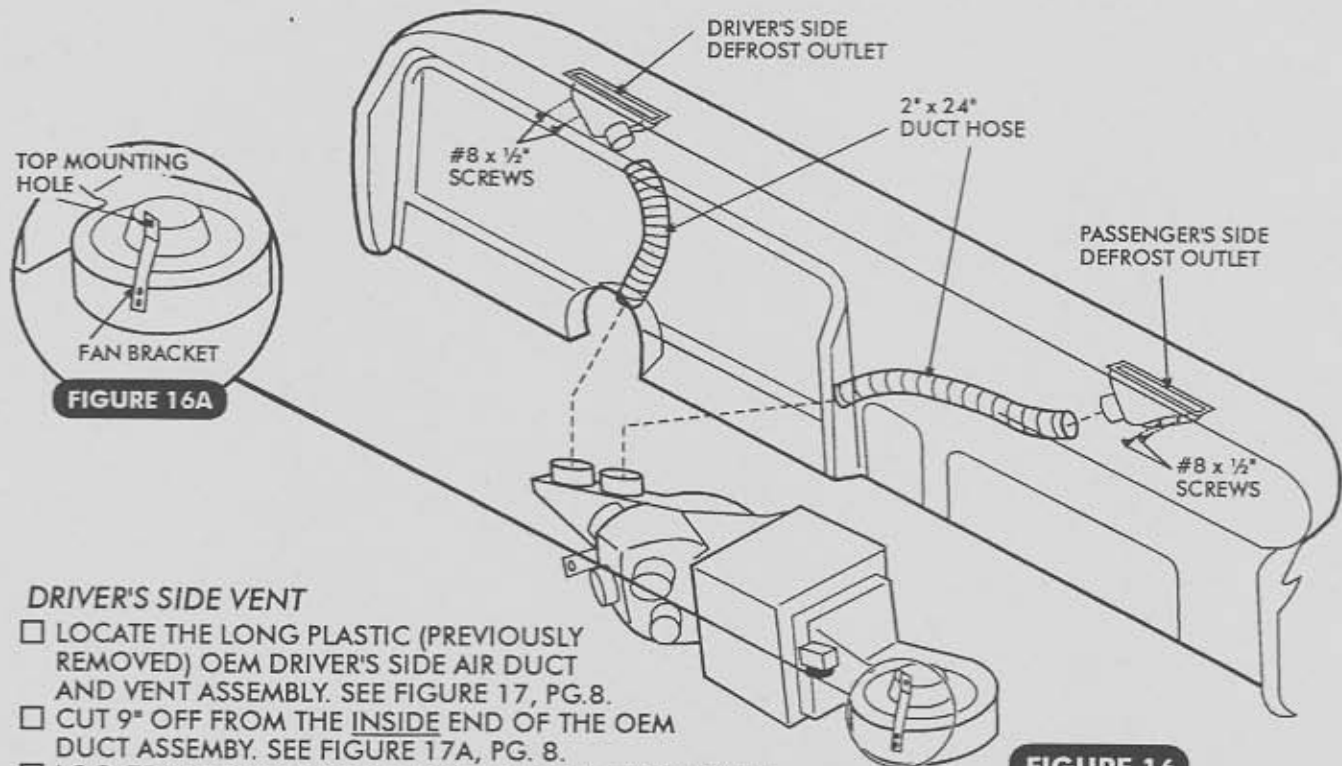

FIGURE 16
- LOCATE THE TWO (2) DEFROSTER OUTLETS. THE FOAM SURFACE GOES AGAINST THE DASHBOARD. THE FLAT SURFACE GOES AGAINST THE FIREWALL AND THE TWO (2) AIR INLETS FACE EACH OTHER. SEE FIGURE 16.
- HOLD THE VENTS IN PLACE AND DRILL TWO (2) EACH 3/32" HOLES USING THE VENTS AS TEMPLATES. SECURE EACH TO THE FIREWALL WITH TWO (2) #8 x 1/2" METAL SCREWS. SEE FIGURE 16.